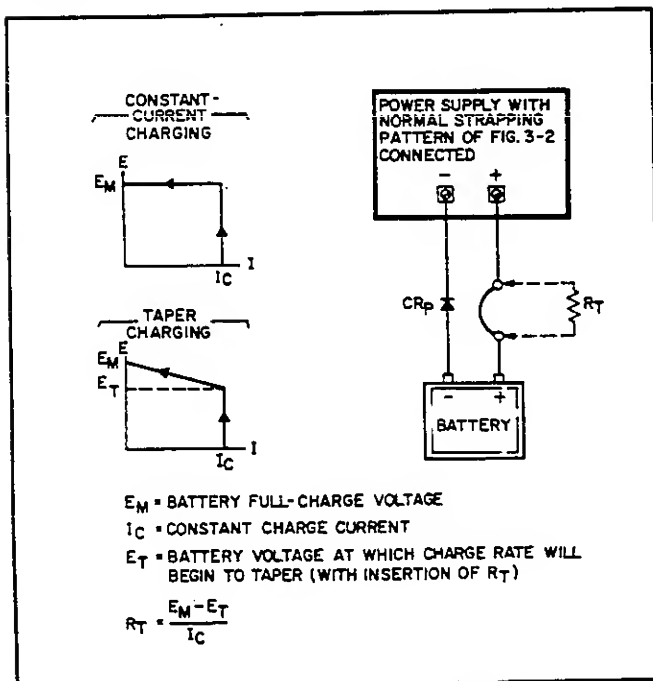

Figure 3-14. Battery Charging
*Any time these supplies are used to charge a battery, be sure to install a protective diode CRP in series with the battery as shown in Figure 3-14 to prevent the battery from discharging into the supply if the supply is turned off. Extensive damage to the supply could result if this diode were omitted.*
- b. Connect a short circuit across the output terminals and rotate the VOLTAGE control fully clockwise (CW).
e. Adjust the VOLTAGE control for an output voltage 0.7 volts greater than the desired full charge voltage. (The added 0.7 volts compensates for the drop across  $CR_p$ .) The supply may then be connected to the battery terminals, positive to positive and negative to negative as shown in Figure 3-14 (omit  $R_T$ ).
**3-82 Taper Charge.** When charging lead-acid cells, many manufacturers recommend that the charging current be reduced as the charge nears completion. This can be accomplished by inserting a small resistance ( $R_T$ ) in series with one of the load leads from the supply to the battery. (See Figure 3-14.) This resistor alters the normally rectangular charging plot in such a manner as to provide a taper charge for the last portion of the charge. The proper value for this resistor is the difference between the full charge voltage and the voltage at which the tapering is to start, divided by the initial charging current. Set the initial charging rate and full charge voltage as instructed in paragraph 3-81.